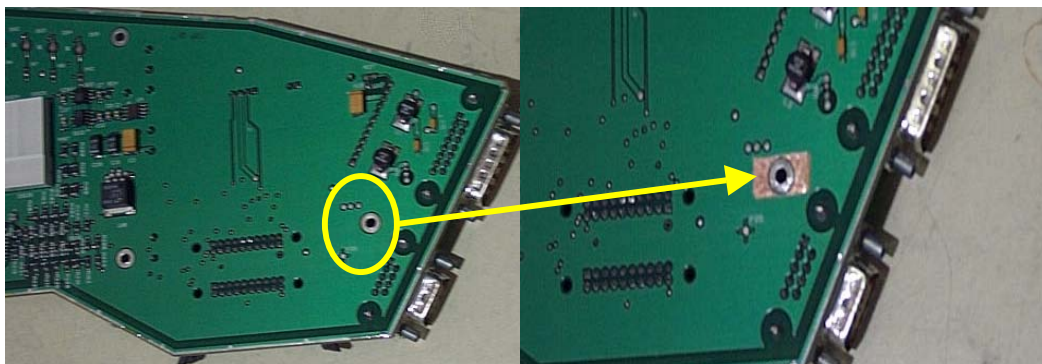

Figure 3. Locate Screw Hole and Remove Board Coating
7. Refer to Figure 3. On the front of the display board, locate the screw hole near the connectors as shown. *Carefully* remove the board coating by scraping it away with the blunt tip of a flat blade screwdriver.
8. Refer to Figure 3. Cut a piece of copper tape to fit inside of the scraped away area. It should be sized to leave sufficient room for the application of solder.